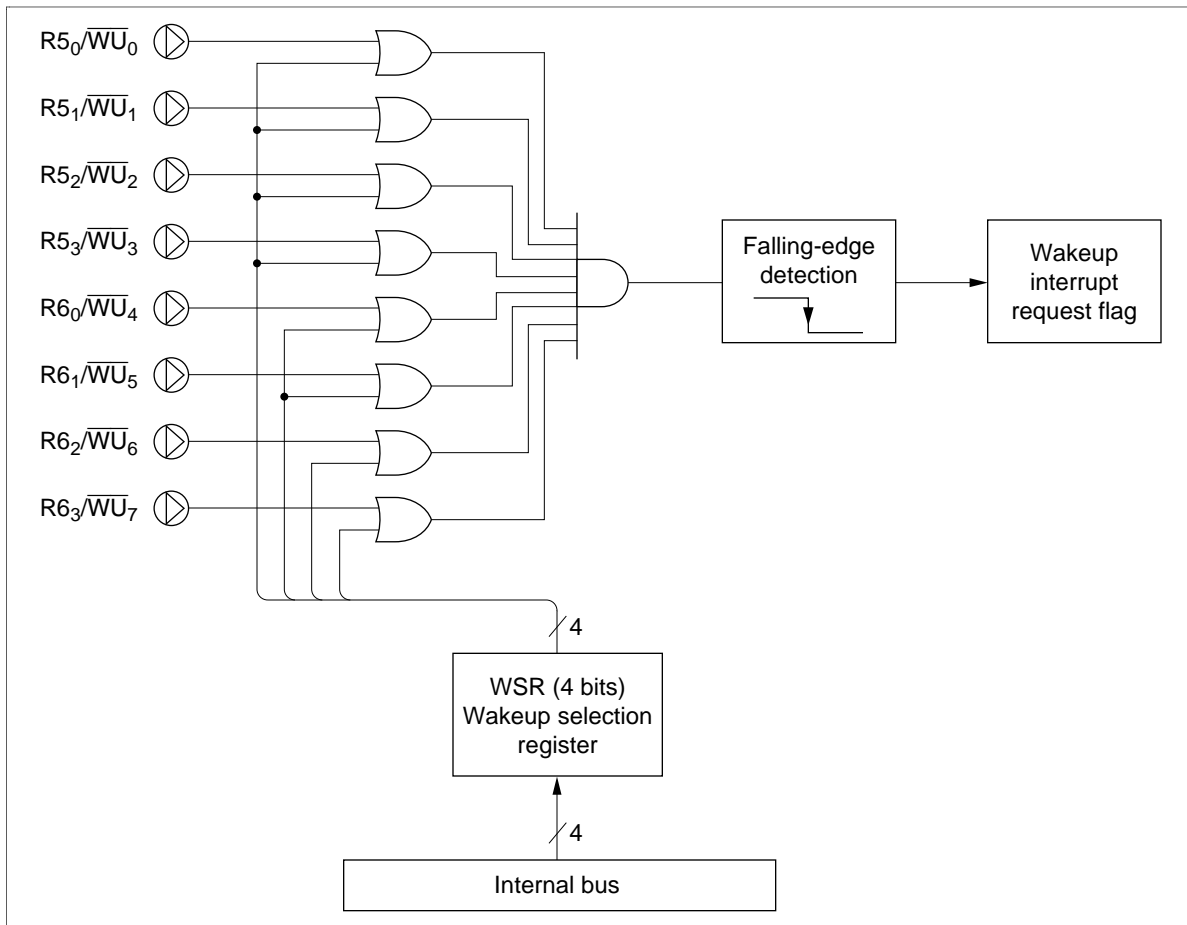
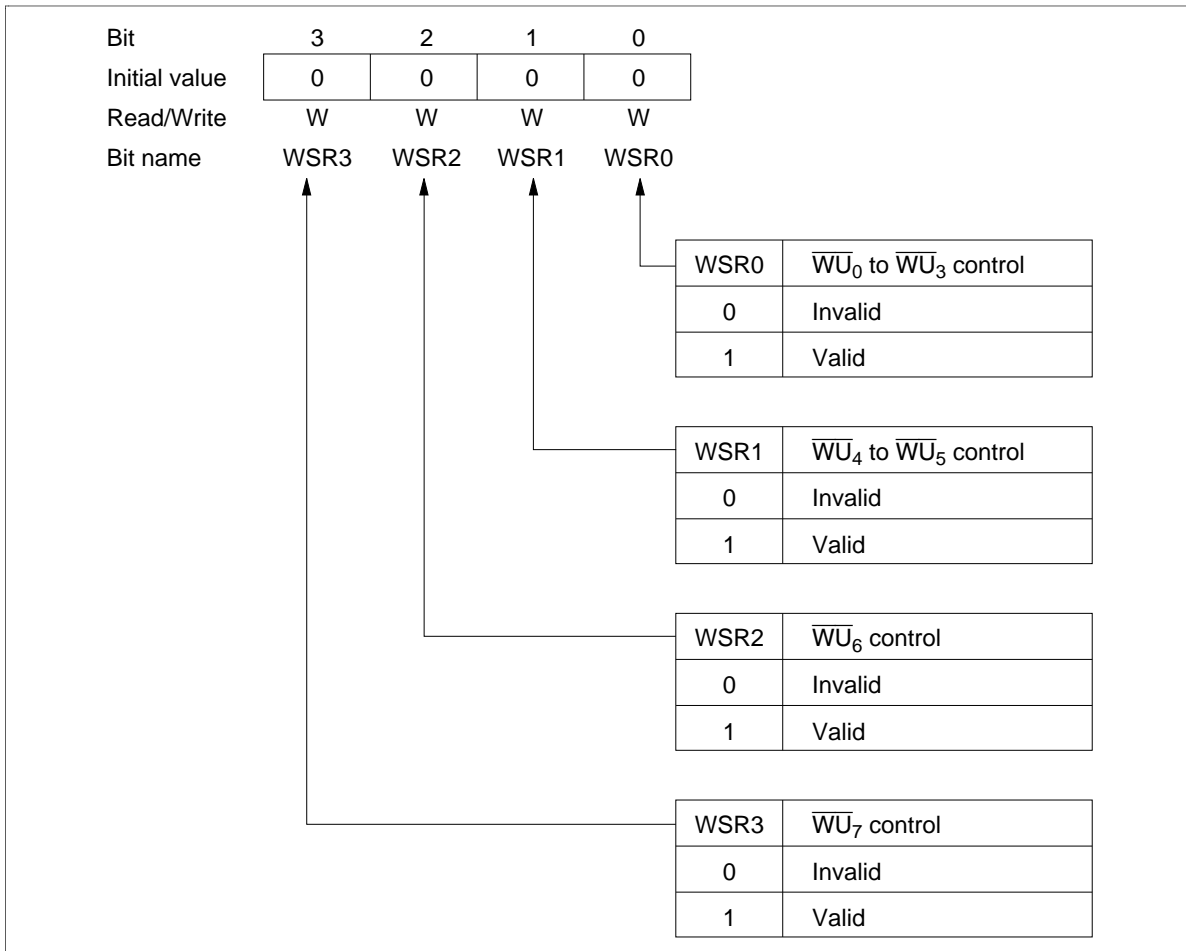

Figure 12 Wakeup Interrupt
Figure 13 Wakeup Select Register (WSR)
**Wakeup Function:** Detects the falling edge of wakeup input signals and sets the wakeup interrupt request flag (IFWU: \$003, bit 2). Refer to figure 12 for a block diagram showing the wakeup interrupt. The wakeup select register (WSR: \$018) can select from one to eight wakeup inputs ( $\overline{WU}_0$ – $\overline{WU}_7$ ) (figure 13). The wakeup function can operate in any mode other than stop mode. When the wakeup interrupt is received, the CPU generates an independent vector address (\$000E).